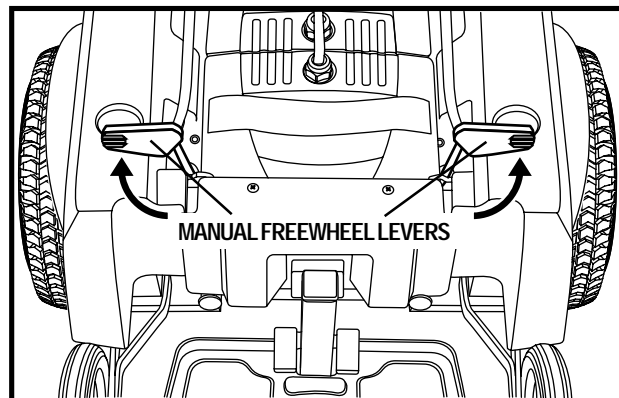

Figure 9. Freewheel Mode (Drive Disengaged)
2. Rotate the manual freewheel levers outward to disengage the drive motors and place your power chair in freewheel mode. See figure 9.